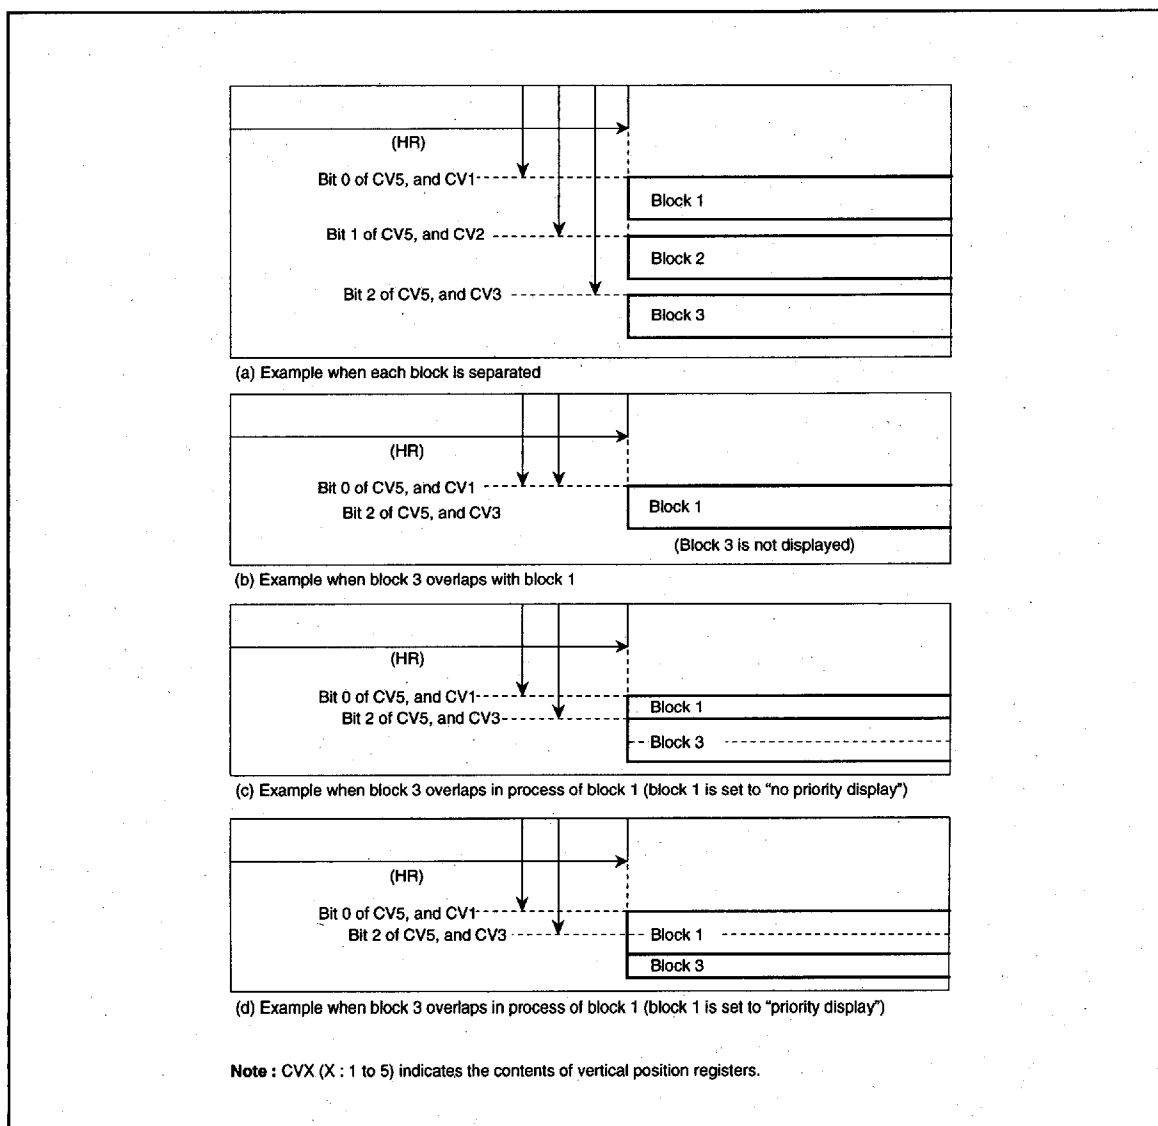

Fig. 49. Display position
- ① When the display position is overlapped with another block (Figure 49, (b)), a lower block number (1 to 4) is displayed on the front.
- ② When another block display position appears while one block is displayed, the block with a larger set value as the vertical display start position is displayed.
- ③ In the case of a block (block 1 or 2) for which "priority display" is already set by the priority display control register, this block is displayed with top priority regardless of ① and ② above (Figure 49, (d)).
- ④ In the case both blocks are of "priority display", they are displayed in conformance with rule of ②. For the priority display function, refer to (13) Priority Function.